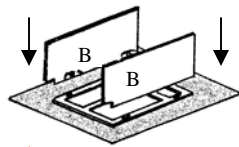

Figure 2
3. Install side panels (Figure 2): insert right and left side panels (B) into the grooves of face frame (A) and align the cam lock connectors (Figure 2). Lock the cam lock with a screwdriver by turning the screw 180 degree clockwise (Figure 4).